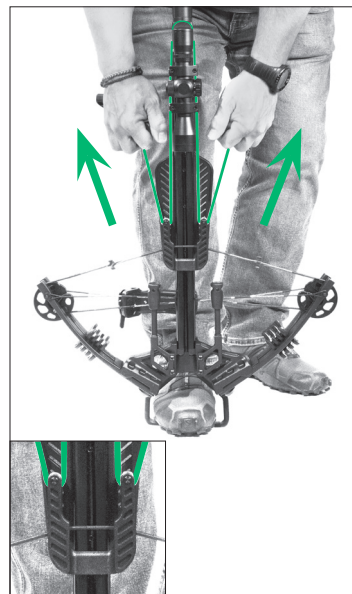

FIGURE 12
- 3c Place the center of the cocking rope in the rope groove. (Fig. 12)
- 3d Place the cocking sled onto the crossbow string ensuring that the string is fully seated on the sled, then pull with even force. (Fig. 12)